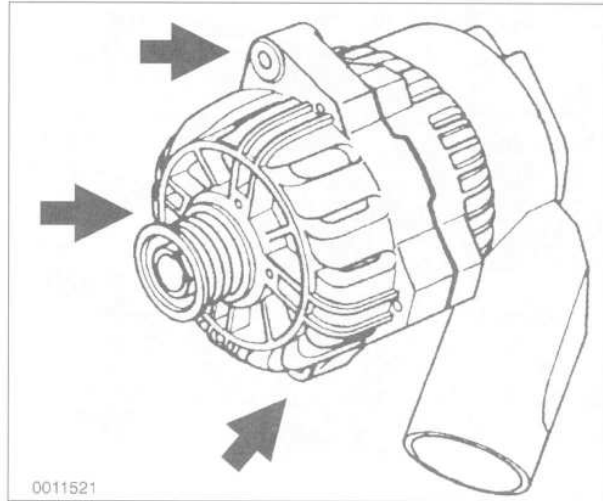

Fig. 4. Alternator mounting bolts (arrows). Alternator from M60 engine shown, other alternators are similar.
7. Remove upper adjustment mounting bolt and lower bolt(s) from alternator. Protect front of radiator with heavy cardboard or sheet metal. See Fig. 4.